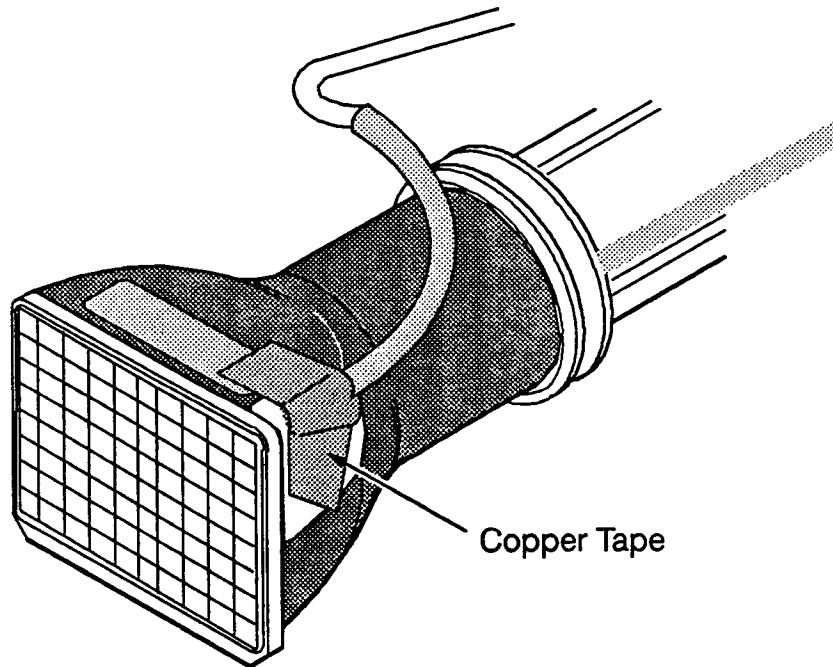

Fig. 1. Orientation of tape on crt.
- () 24. Remove the protective backing from the copper tape, included in this kit, and place the tape on the crt so that it covers the entire anode dam area. Refer to Fig. 1.